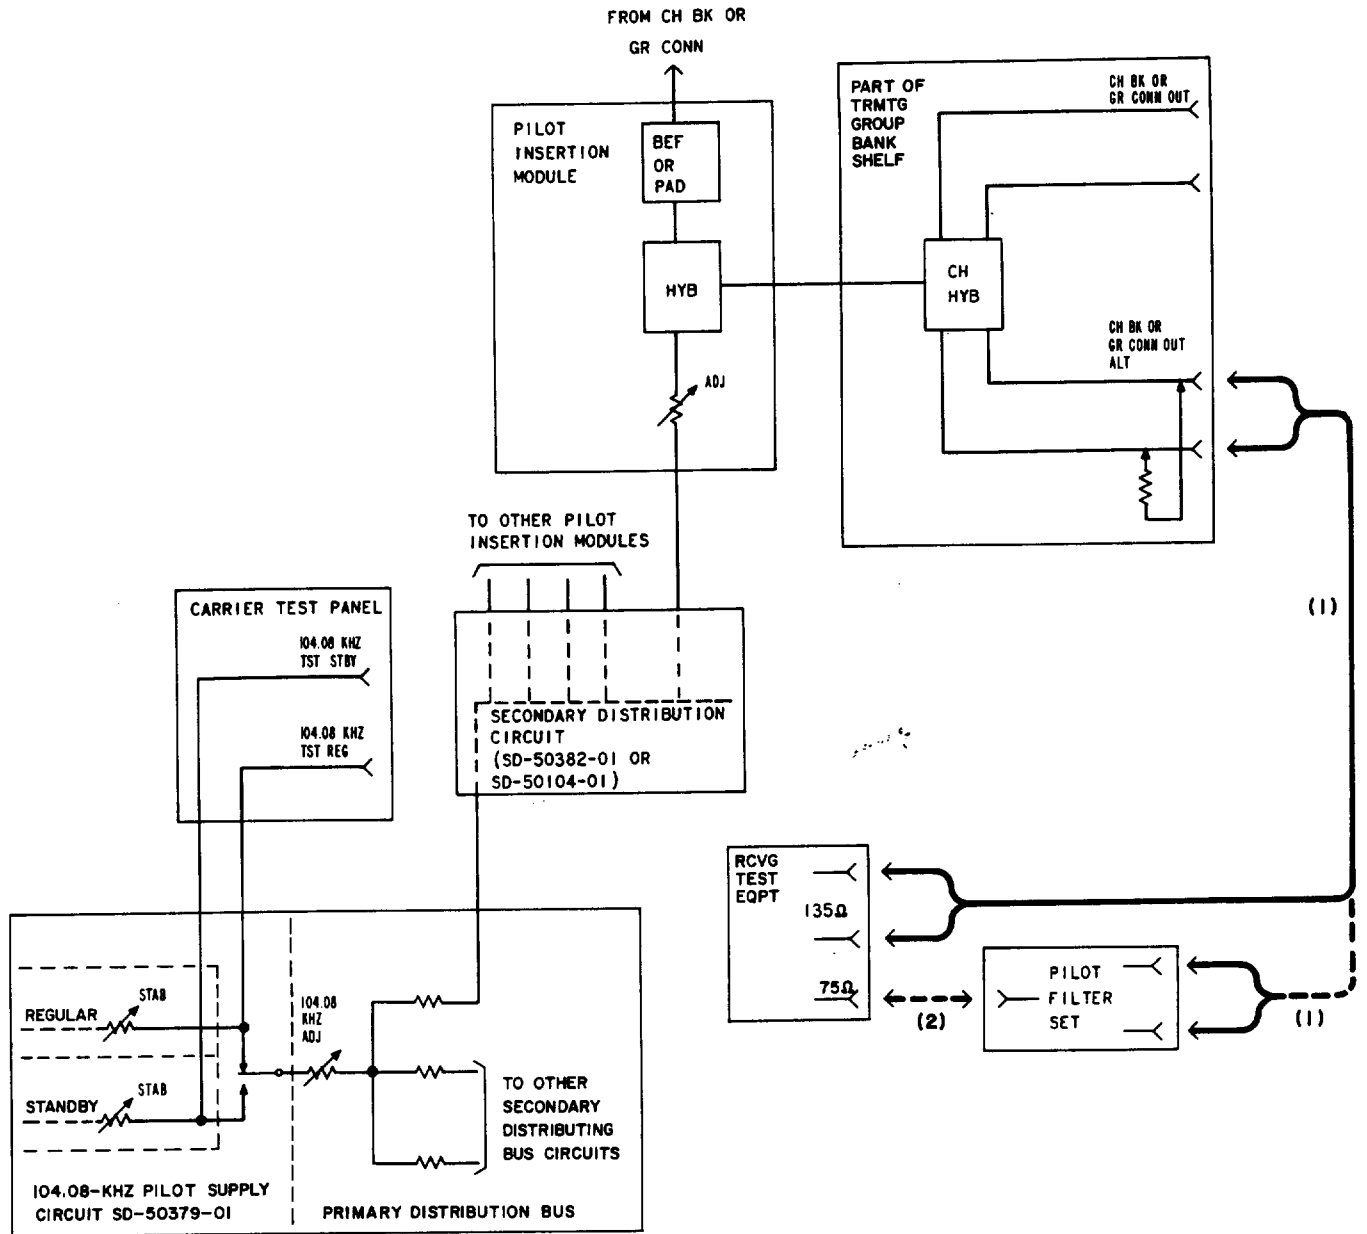

Fig. 1—Transmitting Circuits—104.08-KHZ Group Pilot—In-Service Adjustment
2	<p>Patch the test equipment to the CH BK or GR CONN OUT ALT jacks [patch (1) in Fig. 1].</p> <p>Note: If the J68858AT pilot filter set is used, make patches (1) and (2).</p>
18	<p>Remove patch (1) in Fig. 1.</p> <p>Caution: Interaction may occur between the J68857P pilot insertion modules fed by the same secondary distributing bus. When several of these modules are adjusted, recheck one or two of the first modules to verify that the measured levels have not changed.</p>